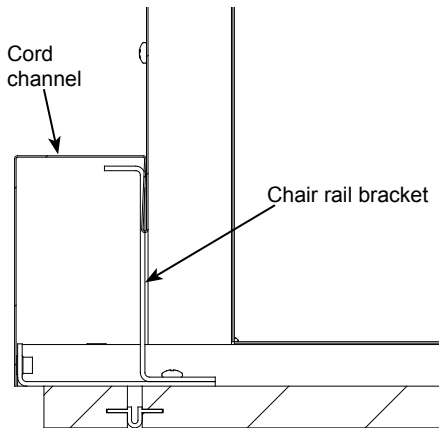

Figure 2B
*Note: If you are assembling a 60, or 72" desk, slide the cord channel over the chair rail brackets. The brackets will support the inside of the cord channel. **Figure 2B.***
2. Install the (4) glides to the bottom of the legs. The glides can be adjusted later to keep the desk level on uneven surfaces.